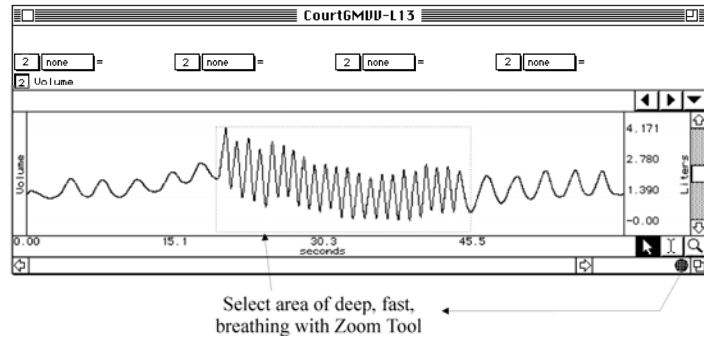

Fig. 13.21
9. Use the **zoom** tool to set up your display window for optimal viewing of the deep, fast breathing segment of the recording (Fig. 13.21).